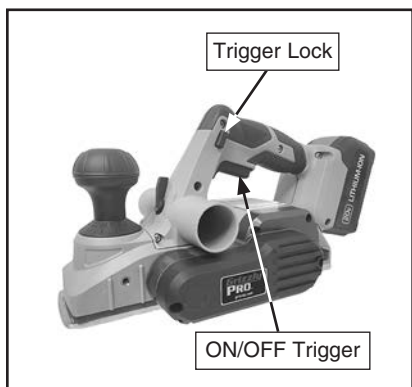

Figure 13. Hand planer controls.
6. Press trigger lock and squeeze ON/OFF trigger (see **Figure 13**). Allow cutterhead to reach full speed.